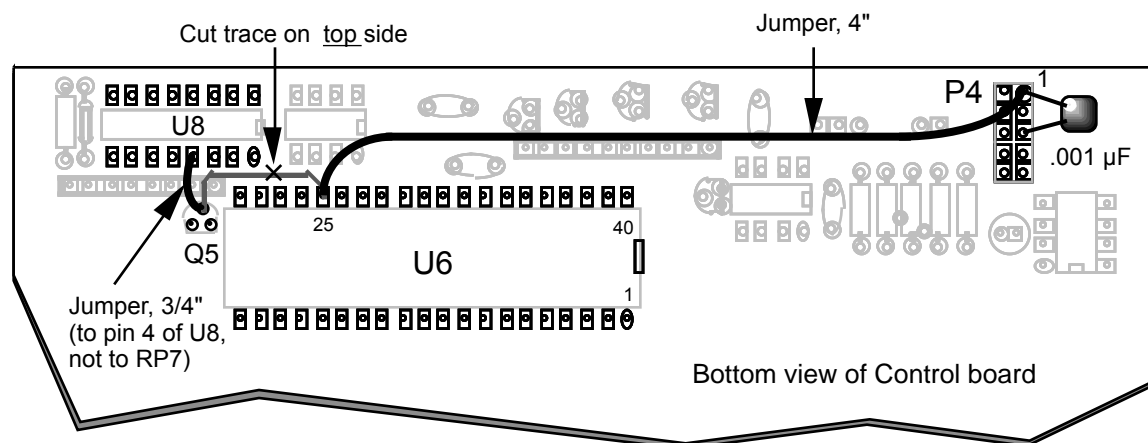

Figure 39
- Figure 39** shows the *bottom* side of the Control board, where most of the changes will be made. One trace will be cut on the *top* side.